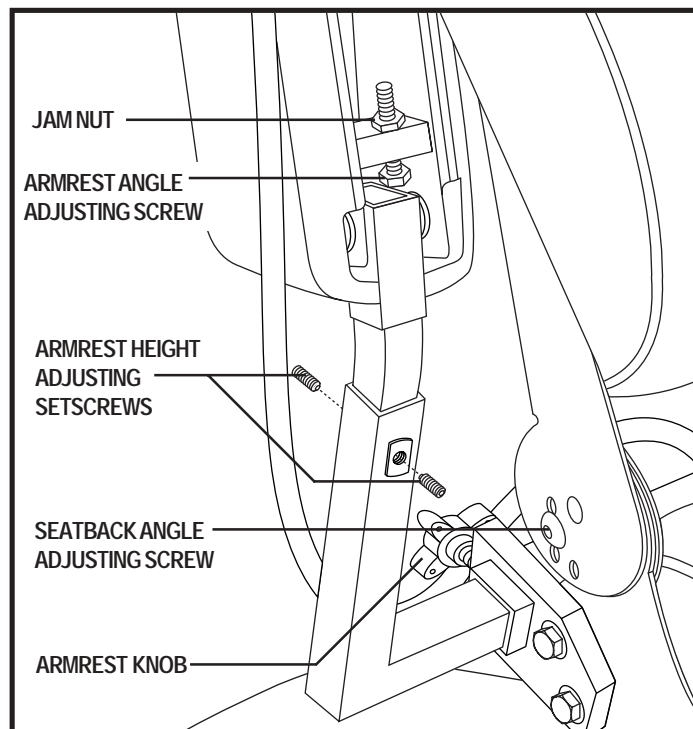

Figure 16. Seatback and Armrest Adjustment
1. Remove the seatback angle adjusting screws from each seat hinge. See figure 16.
1. Locate the two armrest knobs on each side of the armrest receiver bracket. See figure 16.
1. Lift the armrest straight up so that it is perpendicular to the floor. See figure 16.
1. Loosen the two setscrews located on the armrest receiver. See figure 16.